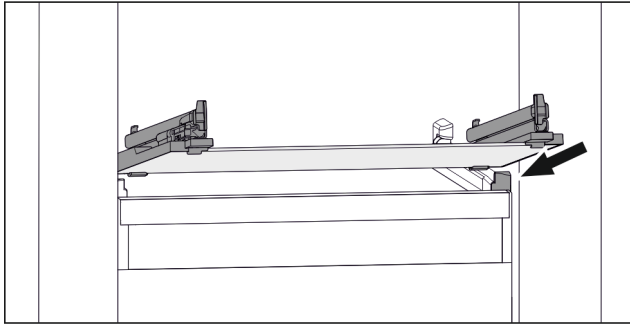

Fig. 88 Example illustration of glass shelf
- ▶ Position glass shelf at an angle behind the stoppers. (see Fig. 88)